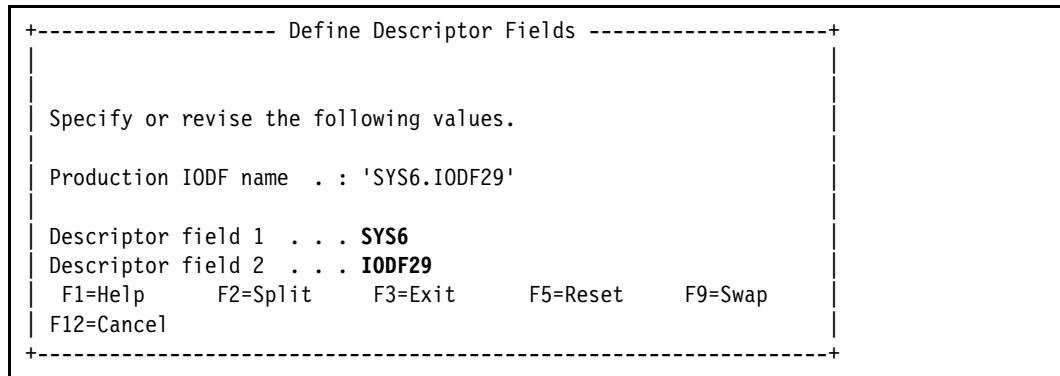

Figure 5-5 Define Descriptor Fields: data fields to be updated
6. The Define Descriptor Fields panel opens (Figure 5-5). Press **Enter** to accept the descriptor fields that are selected by HCD, or enter different values and then press **Enter**.